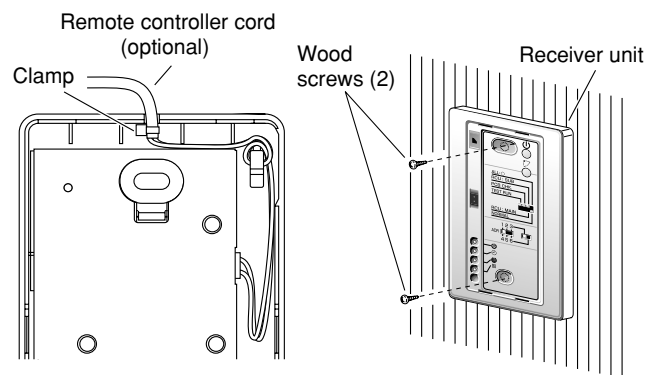

Fig. 11-25
4. Fasten the remote controller cord (optional) at the position shown in Fig. 11-25, using the provided clamper. Then connect the cord to the receiver connector.
5. Shape the remote controller cord as shown in Fig. 11-25 so that it fits at the top inside the receiver unit, above the PCB. Then attach the lower case. At this time, bend the head of the clamp so that it faces sideways.